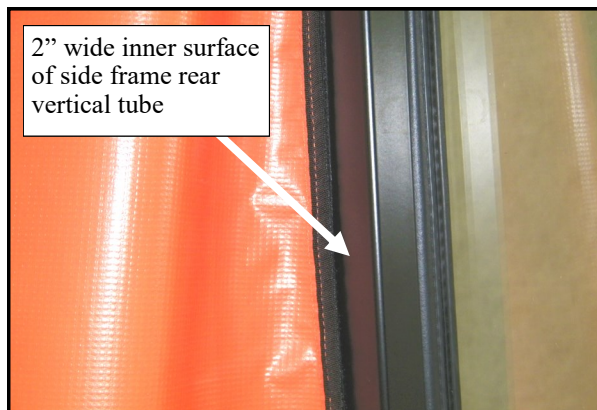

Fig. 11.2 (view from center of tractor)
11.2 Dry fit the sides of the rear curtain to the wide inner surface of the side frame rear vertical tubing as shown in fig. 11.2. Install the supplied 1" wide hook velcro to a clean, dry surface at room temperature for best adhesion. Attach the curtain to the newly installed velcro.